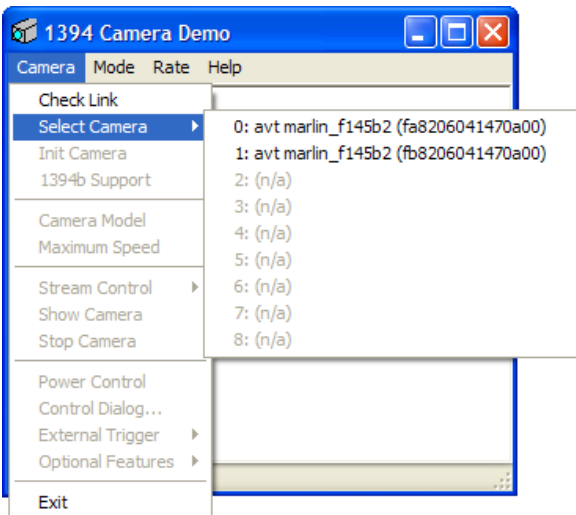

Figure 3.4
- d. Select either of the connected cameras: **Camera→Select Camera (Figure 3.4)**.